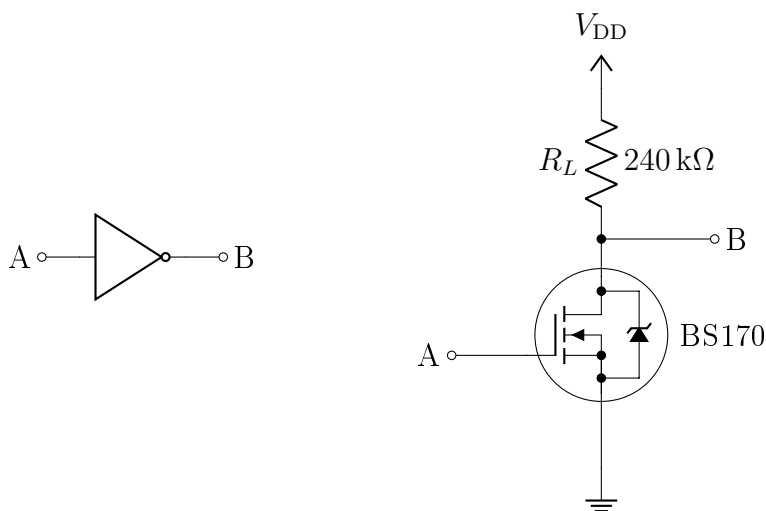

Figure 5: Inverter Gate Symbol and Discrete Diode Implementation
The Inverter circuit shown in Fig. 5 from the Discrete Digital Circuits laboratory is often referred to as a Buffer circuit. One of the benefits of using a MOSFET between stages of a system is that the MOSFET has a very high input resistance and a very low output resistance. A high input resistance means that not much current enters into the device; a low output resistance means that the device does not affect the loading of the system it is attached to. A MOSFET Buffer, as in Lab 6, has both of these advantages. Hence, in a system, it can “buffer” the stages from one another so that the stages act more or less independently of one another.
1. For the MOSFET Inverter shown in Fig. 5, devise a way to determine the input resistance and the output resistance of the circuit (note that the input and output resistances can be modeled as the Thévenin equivalent resistances at the input and output terminals, respectively).
4. Repeat steps (1) – (3) in PSpice.